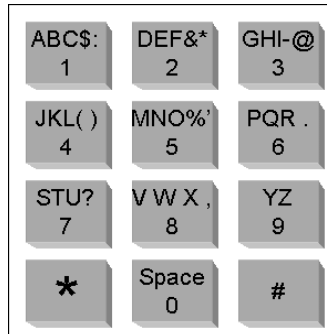

Figure 5. Alternate Keypad Functions
Refer to Figure 5 for the different characters available for each key. Press each key until the desired character displayed. Press the (#) key to accept the character and continue to the next character. When you have finished entering Wash Name, press the enter (*) key.
2. Using the (3) key to scroll forward and the (1) key to scroll back, scroll through the main menu until the “Wash Interface” option is displayed. Press the (*) key to enter.
4. Use the diagram of alternate keypad functions in Figure 5 to assist you in programming the name of your friction wash method.
5. Again using Figure 5, program the name of your touchfree wash method.